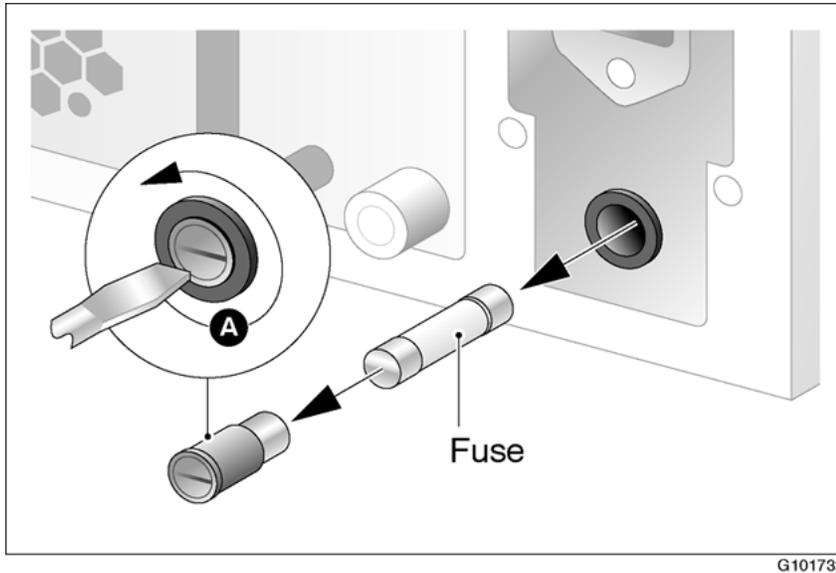

Figure 18: Fuse receptacle
4. Unscrew the fuse receptacle (see A in Figure 18: Fuse receptacle on page 90).